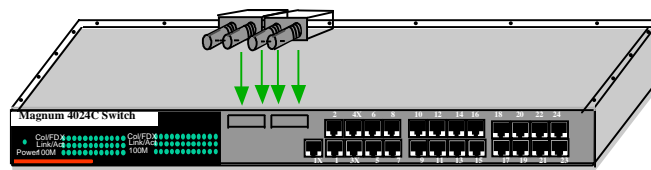

Figure 3.4.2b: Inserting PM Modules into a RFL 3000 4K24F
Step 3. Be sure the pins are precisely aligned with the holes in the header, and the FKM front panel is guided into the front slot cut-out. Then, slowly and carefully apply just enough pressure to insert the FKM module socket into position, see Figure 3.4.2b. (If you force the FKM down when the pins are not properly aligned with the holes in the header, the pins may become bent and the FKM damaged accordingly).